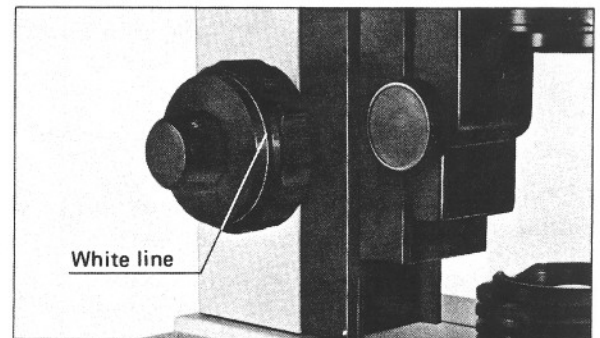

Fig. 21
- 4) The range of the fine focus knob is 2.2mm. The white line on the fine focus knob shows the center of the fine focusing range. It is necessary beforehand to position the white line on the fine focus knob opposite the end of the coarse focus knob. (Fig. 21)
#### 10. Oil-immersion observation (Fig. 21)